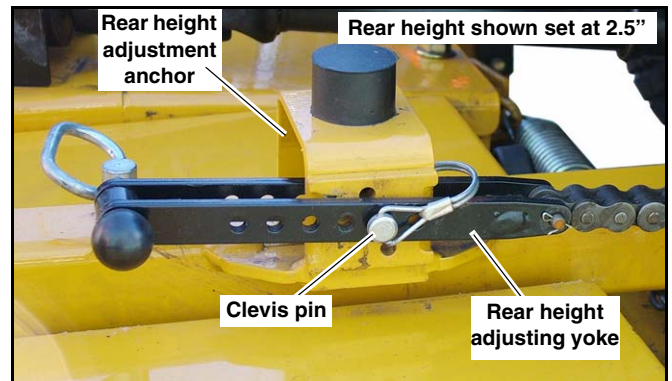
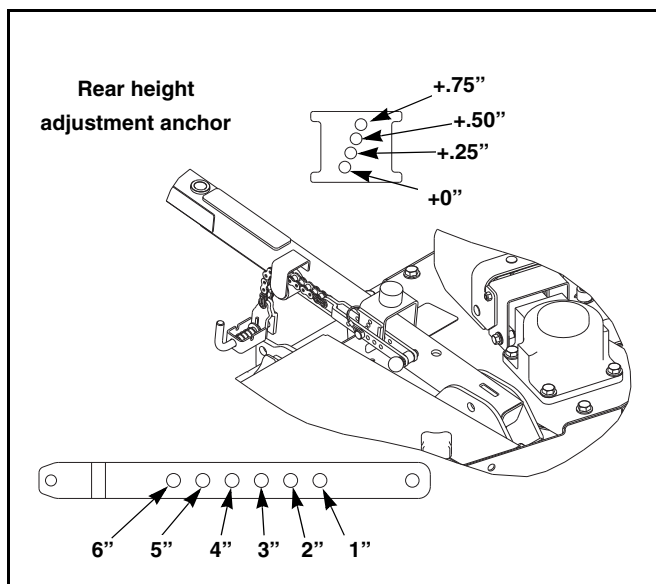

Fig. 3-9
Fig. 3-13
Lower the rear of the deck .25" at the rear height adjustment pin one hole. Fig. 3-9 and 3-13
2. Remove the clevis pin from the rear height adjusting yoke. Locate the appropriate hole in the yoke and in the rear height adjustment anchor and insert the clevis pin through both and secure in place. Fig. 3-9 & Fig. 3-13